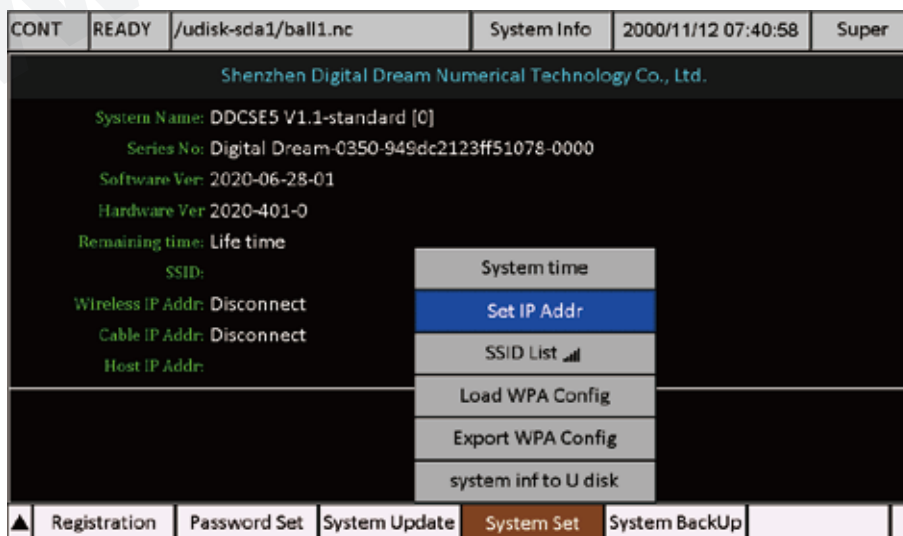

Figure 8-38 Set IP Address
- 2) Press F4 and choose “Set Ip Addr” as Figure 8-38 shows;